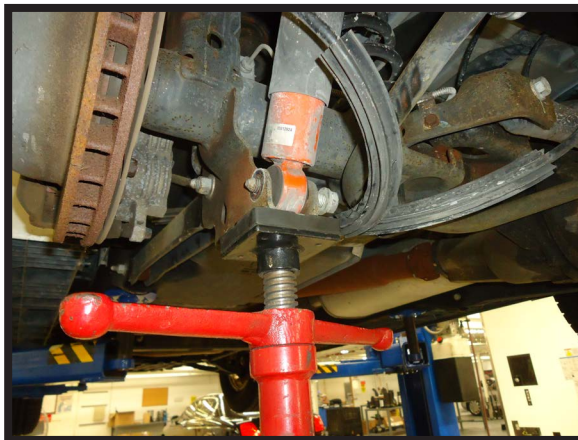

FIGURE 5
6. SUPPORT THE AXLE TO RELIEVE PRESSURE FROM THE AIR SHOCK'S MOUNTING POINTS. REMOVE THE UPPER AND LOWER AIR SHOCK MOUNTING BOLTS. (FIGURE 5)